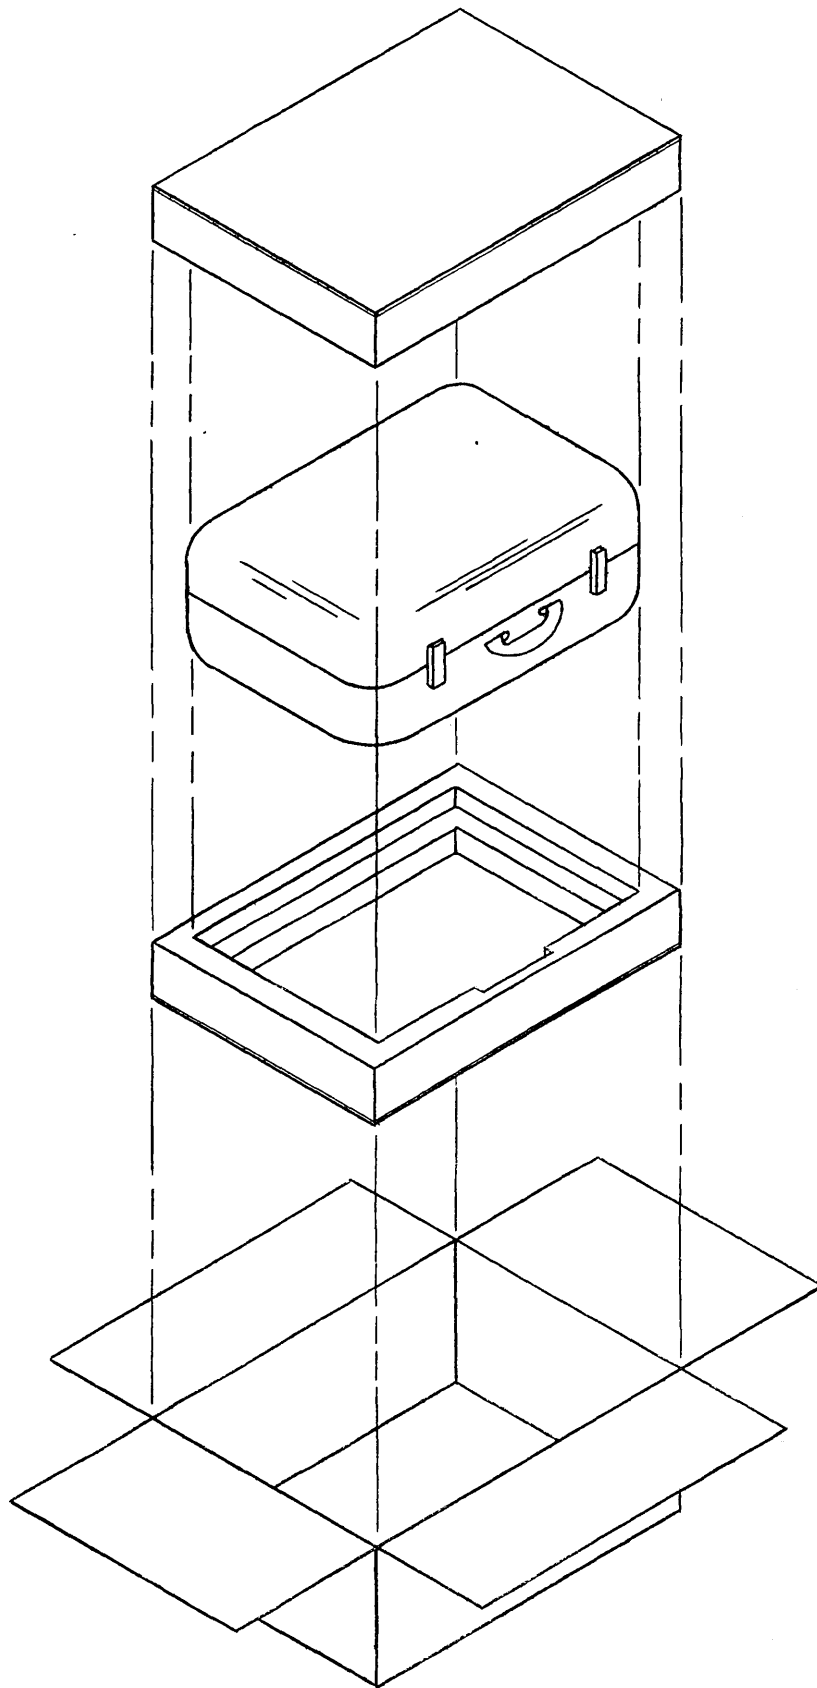

Figure 3-1. Recommended Packing Procedure Using Shipping Carton, CDC PN 59322400
Perform the following procedure. Refer to Figure 3-1.
5. Insert exerciser in place in shipping carton, CDC Part Number 59322400, which may be ordered from Customer Engineering Materials. Refer to Figure 3-1.